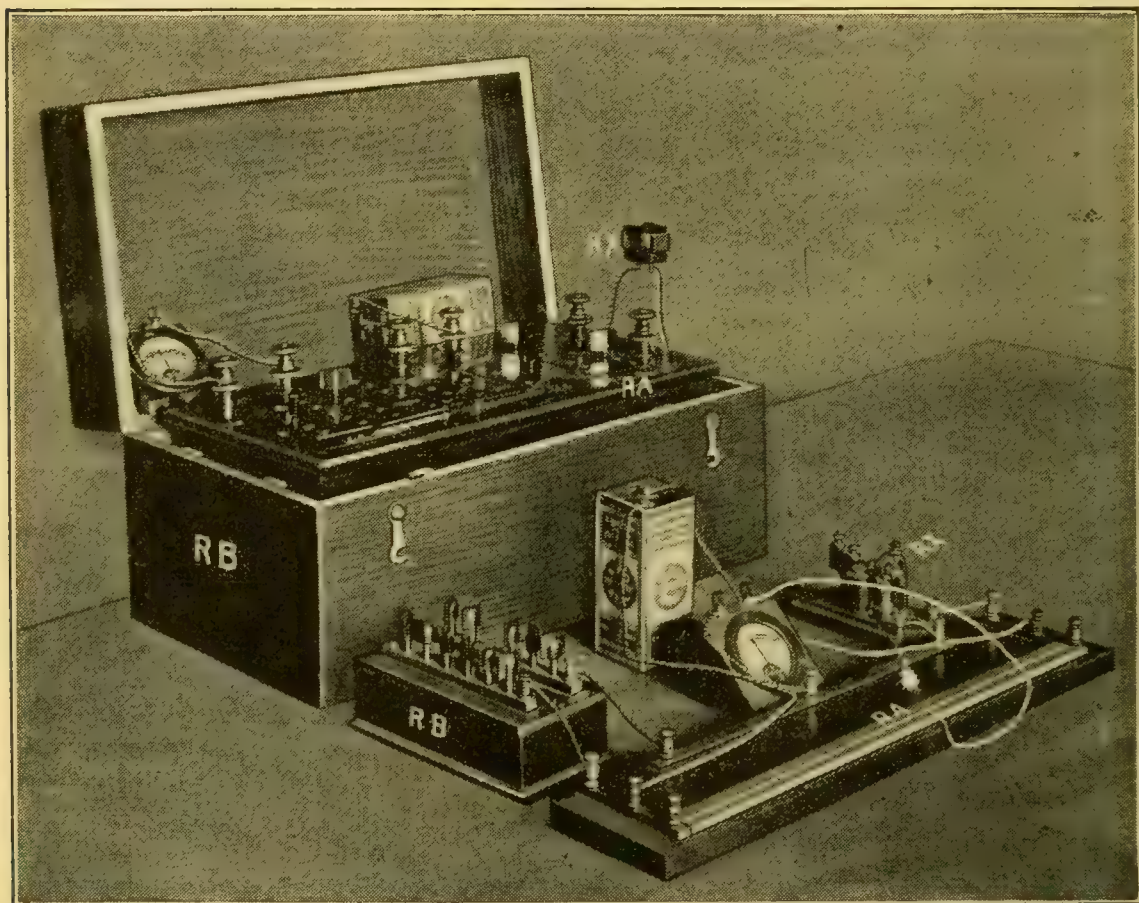

FIGURE 401.—SLIDE-WIRE BRIDGE (FRONT) AND DECADE BRIDGE (REAR).
stretched over a meter stick between heavy brass blocks, A and B . The unknown resistance (X) is connected at A , and at B is connected a *resistance box* (R). This contains a number of coils, made of zero-temperature coefficient wire, connected in series by being soldered to the heavy brass blocks on the top of the box (RB , Figure 401). Any coil may be short-circuited by a taper plug inserted between the blocks to which it is connected. The resistances of the various coils are so selected that any number of ohms, from 1 to 111 or to 1111, may be inserted in the circuit, by taking out
In the *decade* form of the bridge (Figure 401, rear), the case contains, in addition to a set of resistance coils like that described above, two sets of coils, each set having resistances of 1, 10, 100, etc. Permanent connections are made in the box so that these *ratio coils* will have the positions of R_3 and R_4 . By inserting one plug in each set of ratio coils, and then balancing the bridge by the use of the other resistance coils, the calculation becomes simply a matter of properly placing the decimal point. This type of bridge is used not only in the laboratory, but also to locate breaks and faults in telegraph and telephone lines.